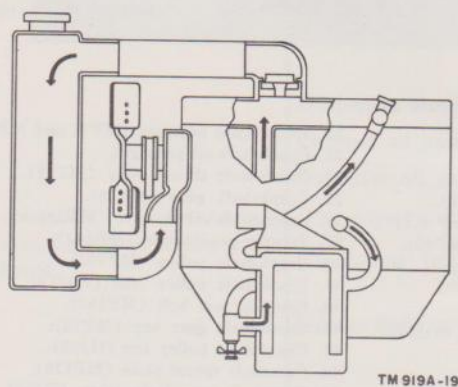

Figure 19. Cooling system flow diagram.
*e. Cooling System* (fig. 19). The engine coolant is drawn from the bottom of the radiator by the water pump, and is forced into the cylinder block through the jacketed passages around the cylinders, valve ports, and combustion chambers, and then out of the cylinder head and into the top of the radiator. The coolant is cooled by air blown through the radiator by the engine fan. The engine temperature is maintained at a pre-established minimum by the thermostat. The engine is automatically stopped by the coolant temperature cutoff switch in the water outlet neck if the coolant temperature reaches the predetermined setting of the cutoff switch. The pressure-type filler cap will release vapor through the radiator overflow if the pressure in system exceeds 4 psi.